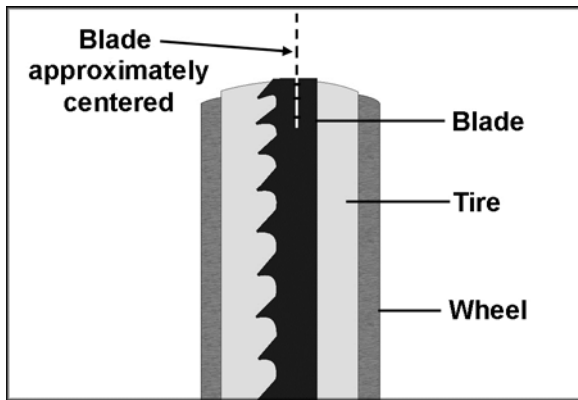

Figure 22
- Rotate wheel by hand, observing position of blade through tracking window. As you rotate wheel, move lever to “Full Tension” position. The blade should continue to ride upon center of tire (Figure 22).